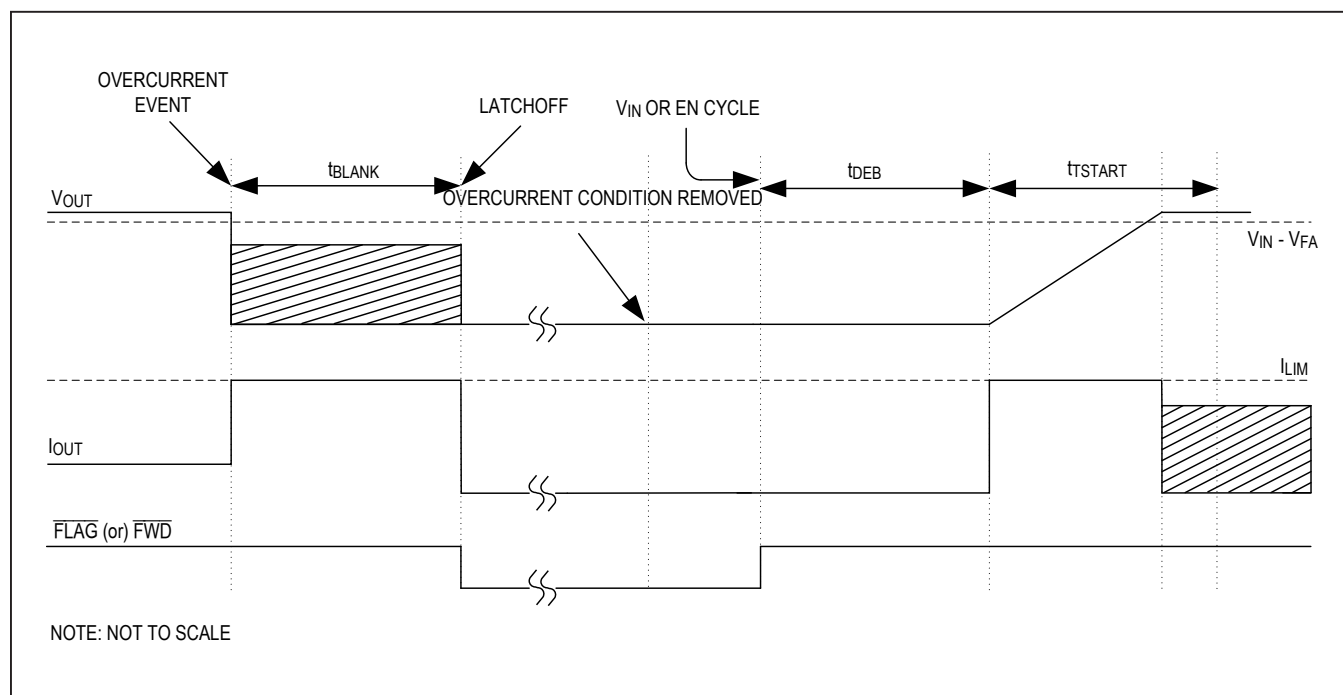

Figure 9. Overcurrent Fault Timing Diagram in Latchoff Current-Limit Mode
In latchoff current-limit mode during normal operation, if the device enters an overcurrent condition, the  $t_{BLANK}$  timer starts. The  $t_{BLANK}$  timer resets as and when the overcurrent condition resolves before the  $t_{BLANK}$  duration has elapsed, and then the normal operation continues. If the overcurrent condition exists for the  $t_{BLANK}$  duration or if the device junction temperature reaches  $T_{JC\_MAX}$ , the output NFET Q2 is turned off and latched, the  $t_{BLANK}$  timer resets, and the  $\overline{FLAG}$  (or  $\overline{FWD}$ ) pin asserts. To reset the device, either toggle enable control signal (EN) or cycle the input voltage. Figure 9 depicts a typical operating behavior in latchoff current-limit mode.